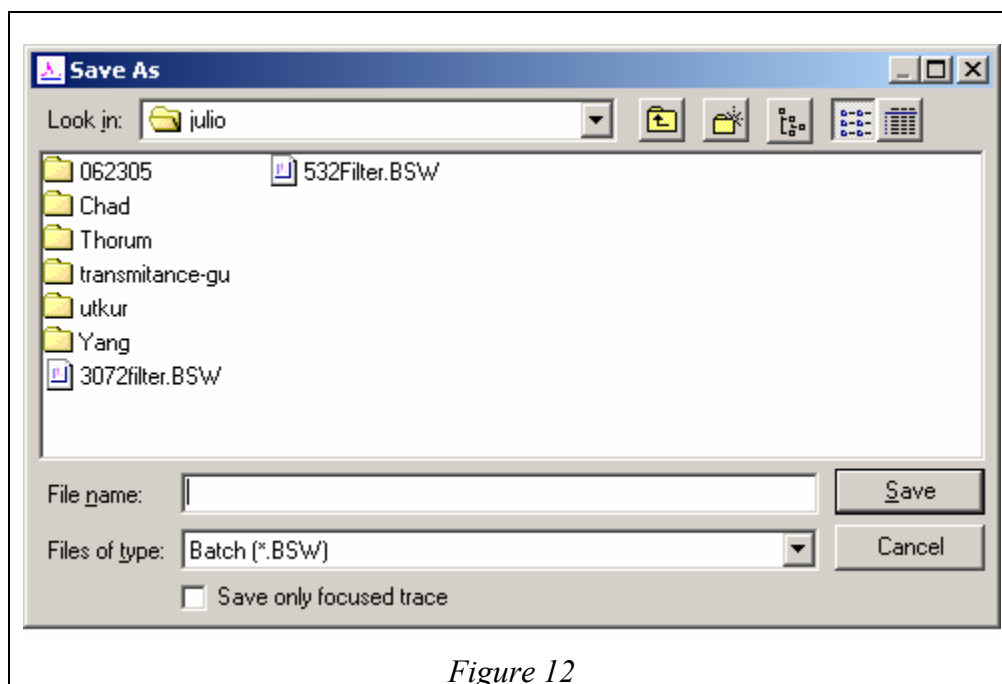

Figure 12
- 8) To save your data for analysis with a software other than the collection software, save your data as CSV, after you collect the last spectrum. The Scan program will save all the collected data and baselines in the memory, in a single file. If you prefer to save each spectrum in a different file, you can do so by checking the “Save only focused trace” check box. (Fig. 12)